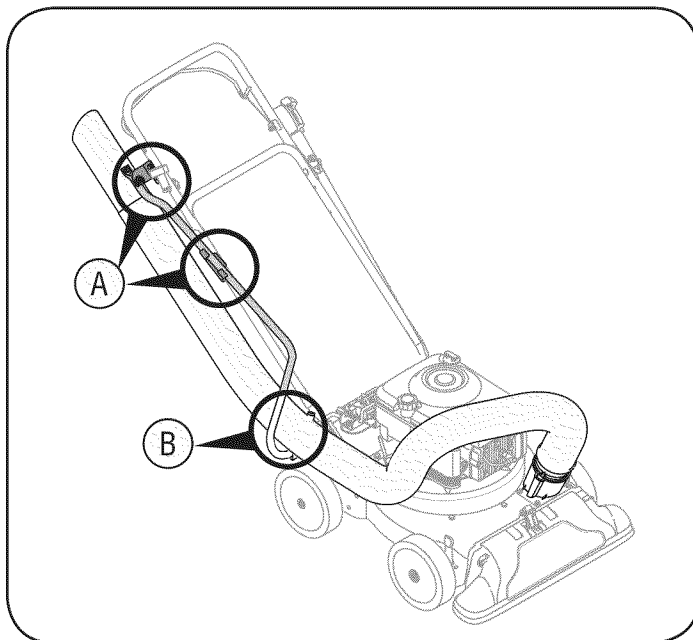

Figure 6
b. Lay hose tubing in curved end of handle next to chipper chute. See Figure 6.